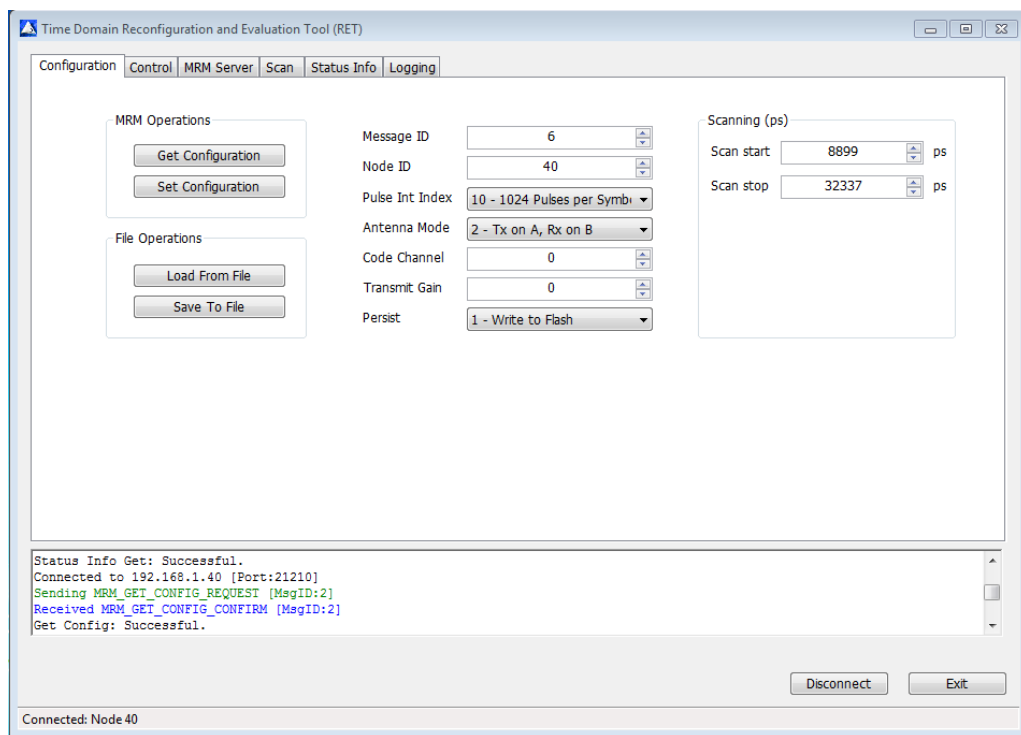

Fig. 9: MRM-RET connected to the P400 MRM
3. Click the **Connect!** button. The main operating window will open (**Figure 9**). The status window at the bottom should confirm that “Get Config” was successful and should display the message “Connected to 192.168.1.100 [Port:21210].”